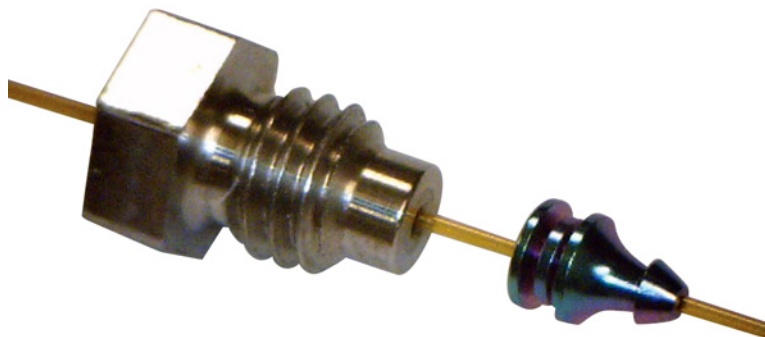

Figure 17. Ferrule swaged to column and column nut
- 7 Using the 1/4-inch open-ended wrench, turn the column nut an additional 15 to 20 degrees clockwise to assure the ferrule is properly swaged onto the column. See **Figure 17**.